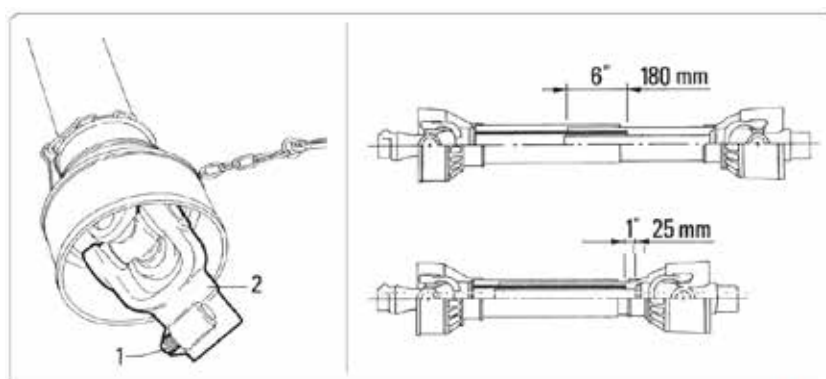

fig. 4.2.3
- Check that the driveline is the correct length fig. 4.2.3.
The minimum coupling length must be no less than 180 mm (6 inches) in each work position. Driveline travel must still be about 25 mm (1 inch) in the maximum coupling position. See fig. 4.2.3. These are the correct regulations for safe working conditions.
Always couple the two end forks of the driveline and check that they are perfectly locked in place. To achieve this condition, completely insert the pins and safety bolts “1” fig. 4.2.3 into the relative grooves in the PTO shafts on both the tractor and mower sides. An unlocked shaft could slip out of position, causing notable mechanical damage and serious injury to anyone near.